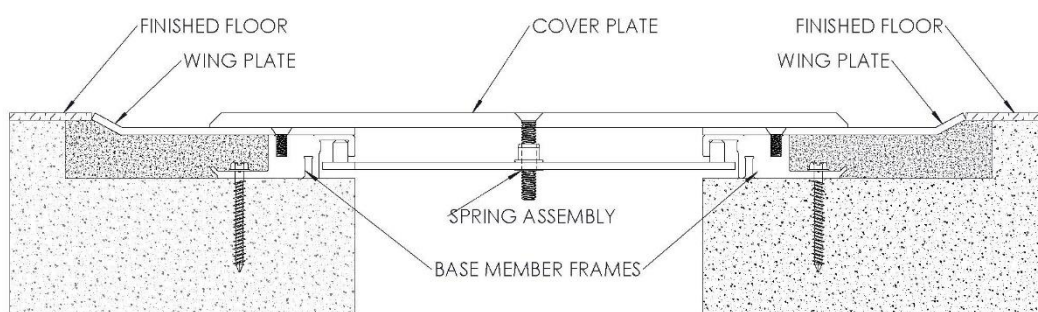

FIGURE 7
7. Position the cover plate centered over the base frame and with the center hole aligned with the spring assemblies. Attach the cover plate to the spring assemblies with the provided spring screws. DO NOT OVERTIGHTEN. **See Figure 7**